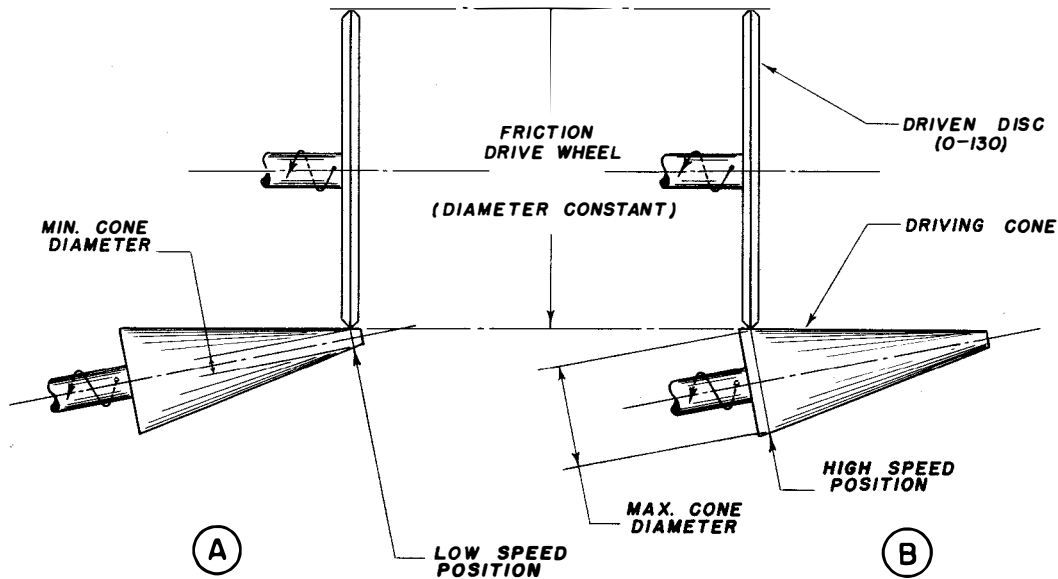

Figure 2-2. Principle of Speed Change Using Movable Cone Drive
Code Recorder RD-112/U employs a variable speed tape drive mechanism to pull tape through the recording head. See Tape Drive Mechanism in Figure 5-4. The tape drive consists of a synchronous motor and cone assembly driving friction wheel O-130 which in turn operates tape friction wheel O-121. Rotation of tape speed control E-109 moves motor and cone assembly with respect to friction wheel O-130. With the tape speed control set for low speed operation, the relationship of the cone to the friction drive wheel will appear as shown in (A) of Fig. 2-2. With speed control set for high speed operation, the cone and disc will appear as in (B) of Fig. 2-2. Tape speed is dependent, therefore, upon the ratio of the effective diameter of the cone to the